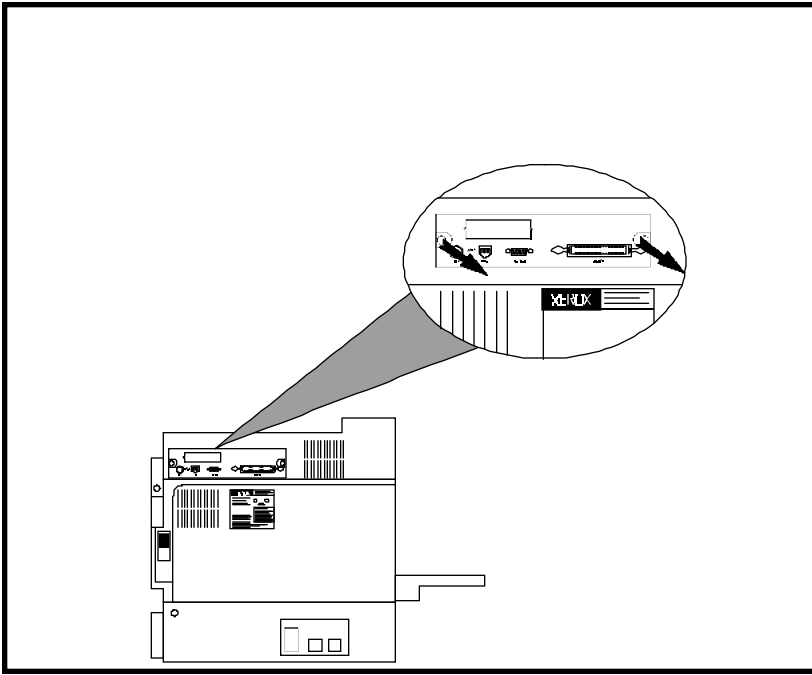

figure 2.4
- ▲ Loosen the thumbscrews by turning them counter clockwise (fig.2.4). **Do not remove thumbscrews.**